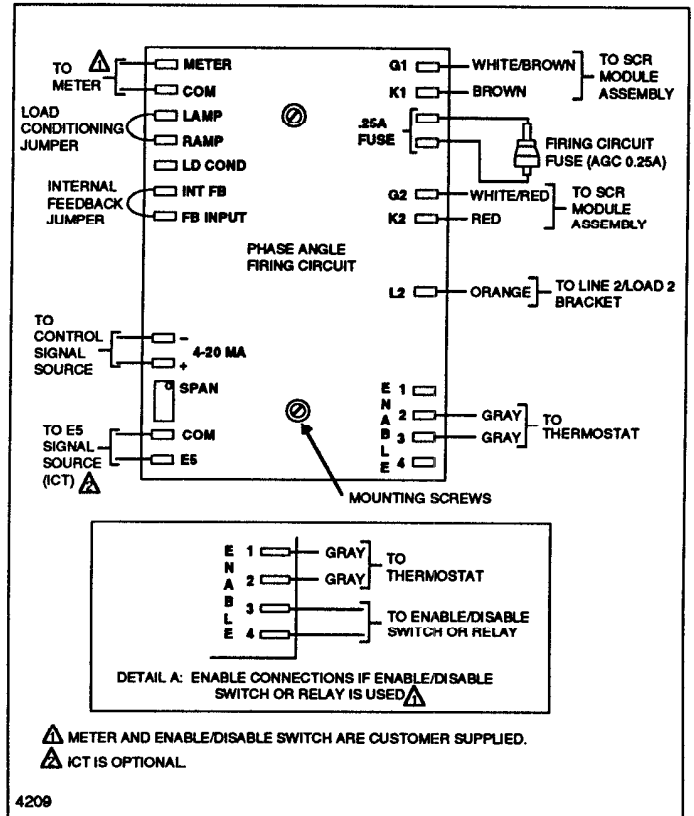
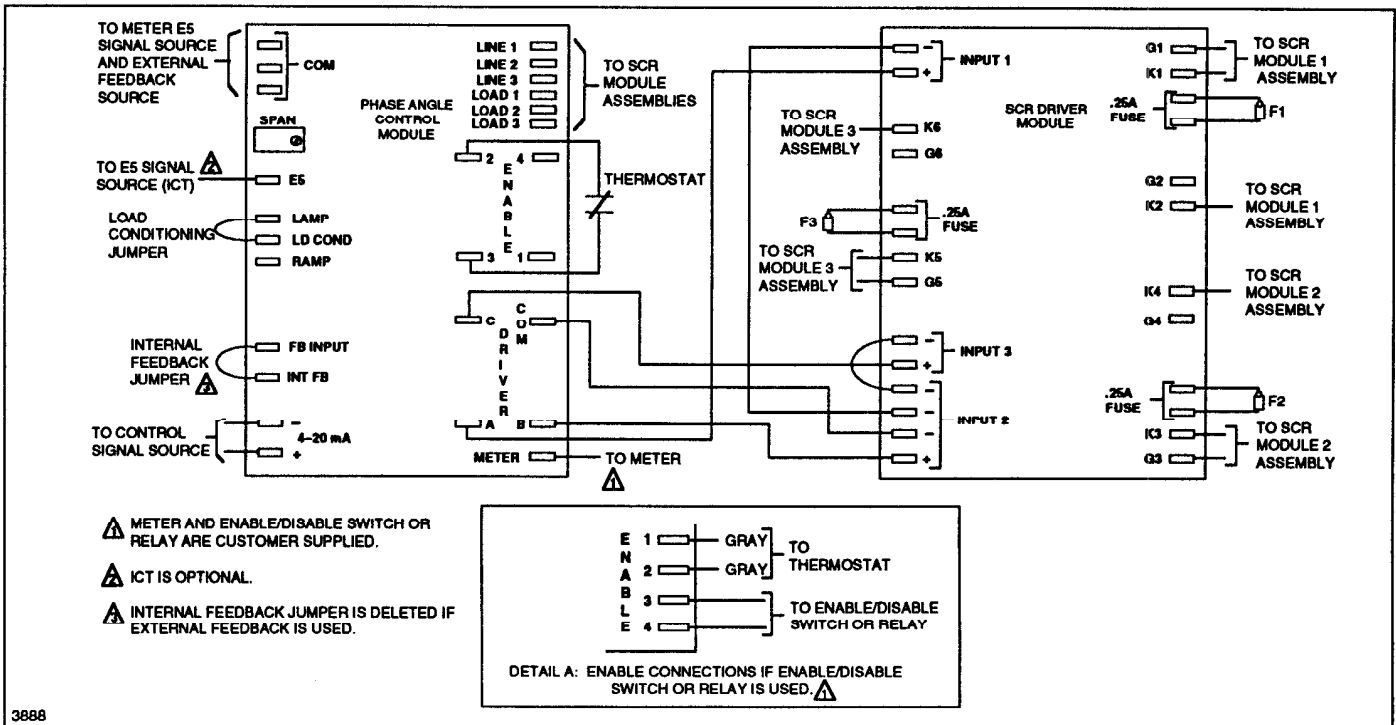

Figure 5-14. Model 664F phase angle firing circuit module connections.
Figure 5-15. Model 664G and 664K phase angle control module and SCR driver module connections.
3. Remove the firing circuit fuse from its holder (see figure 5-14 for 664F or figure 5-15 for 664G/K) and install a replacement.
- Note the locations of all push-on lugs on the module to be replaced (see figure 5-14 for 664F or figure 5-15 for 664G/K). Then disconnect them from the firing circuit module.